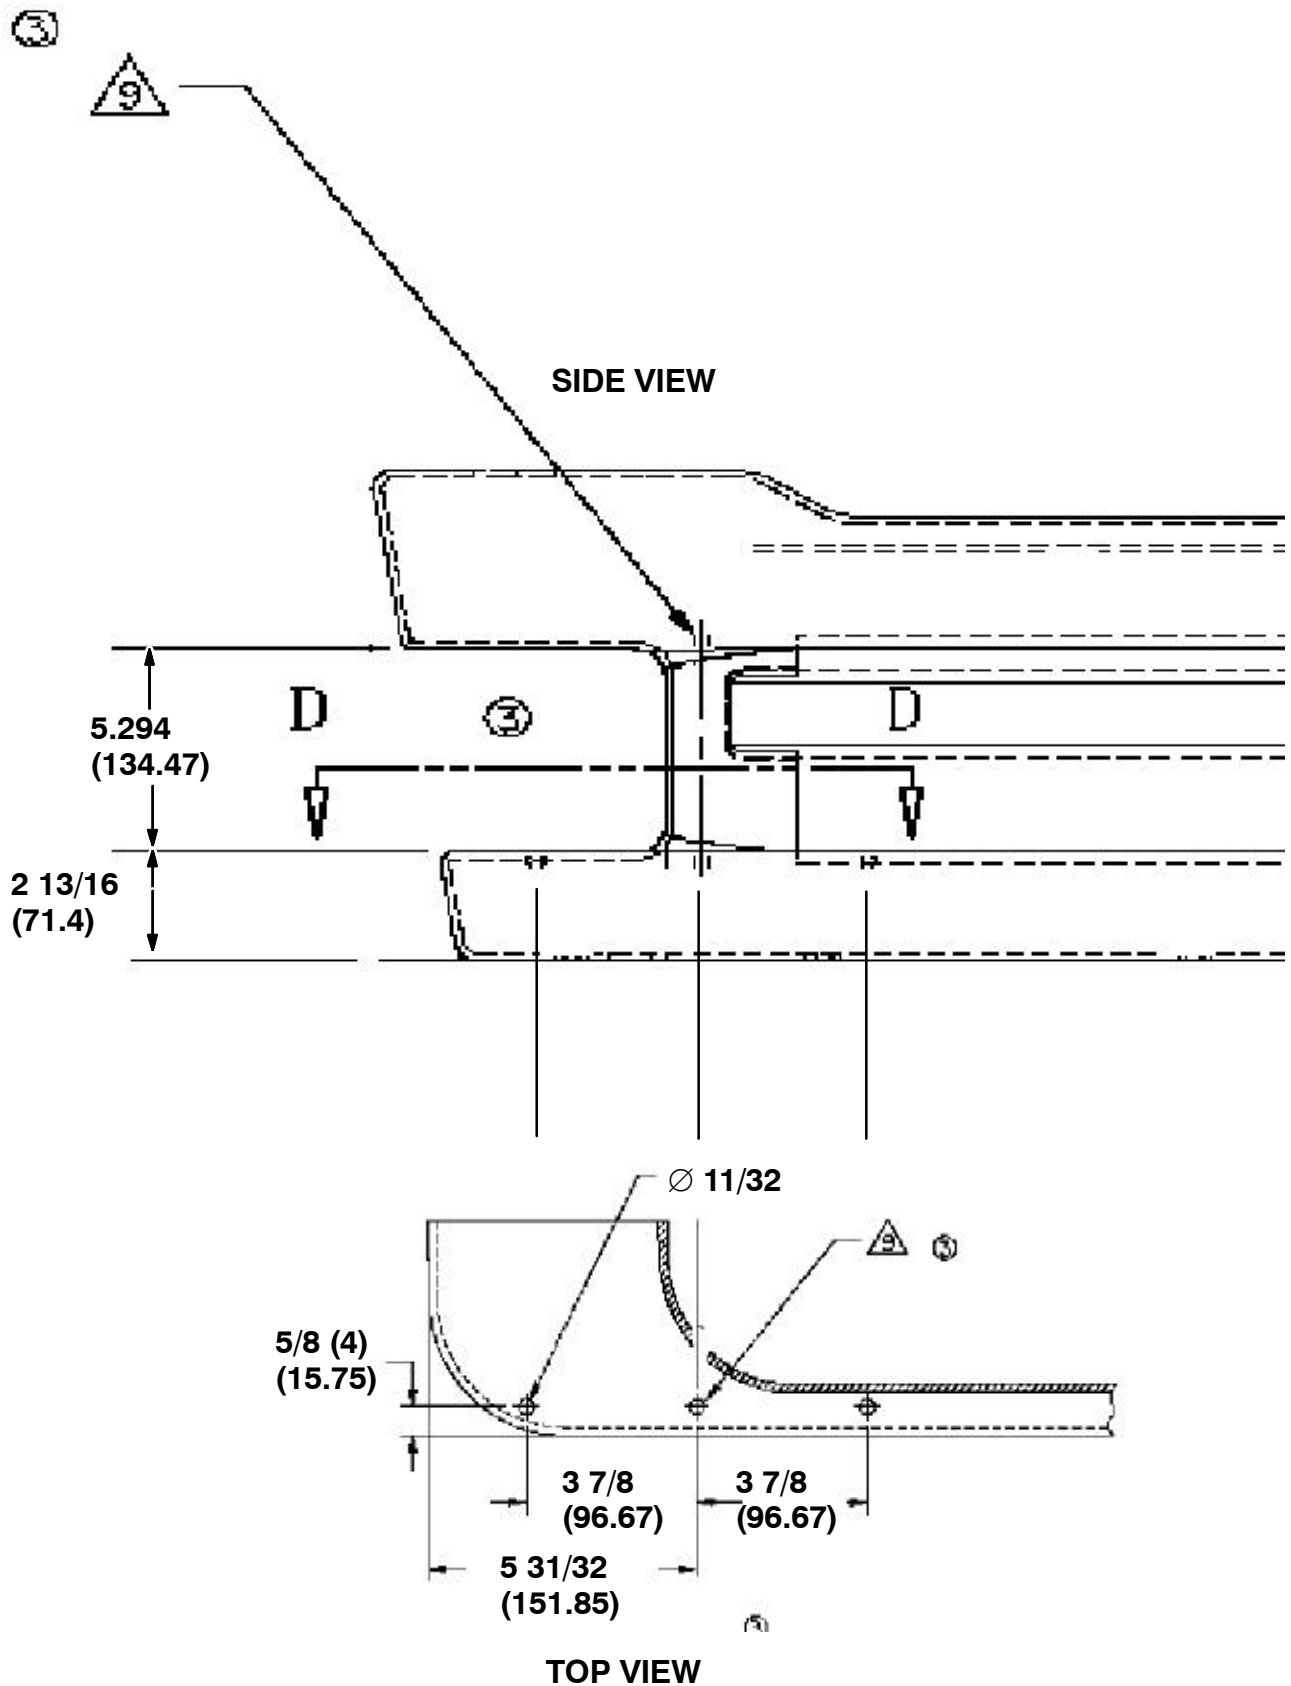
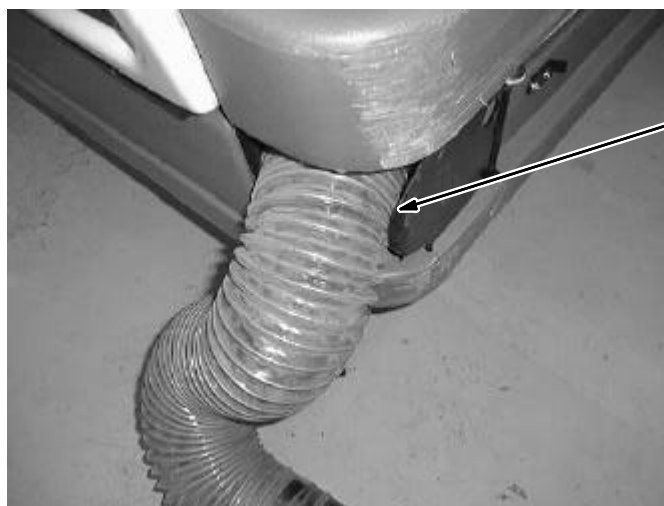

FIG. 3 - VACUUM WAND DOOR MOUNTING HOLE DIMENSIONS
FIG. 6 - DOOR CLOSED ON HOSE
2. Mark and drill the lower middle 11/32 mounting hole in the right side bumper according to the dimensions in figure 6. (Refer to FIG. 3 and 4)
(Refer to FIG. 3 and 5)